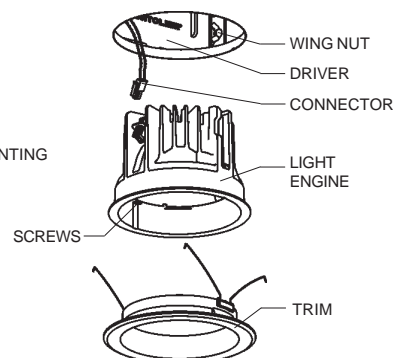

FIG.11
Install a bead of silicone caulking compound between the ceiling opening and edge of housing. Housings are tested in accordance with ASTM E283 (max 2 ft³/min @ 75 Pa) and comply with WESC & MEC when installed as instructed. Note: Light engine and trim are sold separately. (Fig.11)
H. DRIVER REPLACEMENT : (Fig.11)